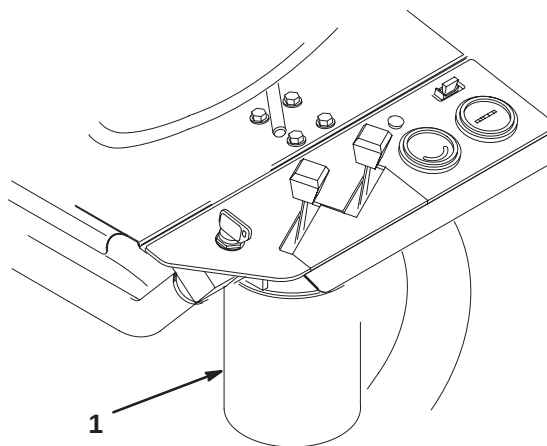

Figure 43
- Clean the area around the filter mounting area (Fig. 43). Place a drain pan under the filter and remove the filter.